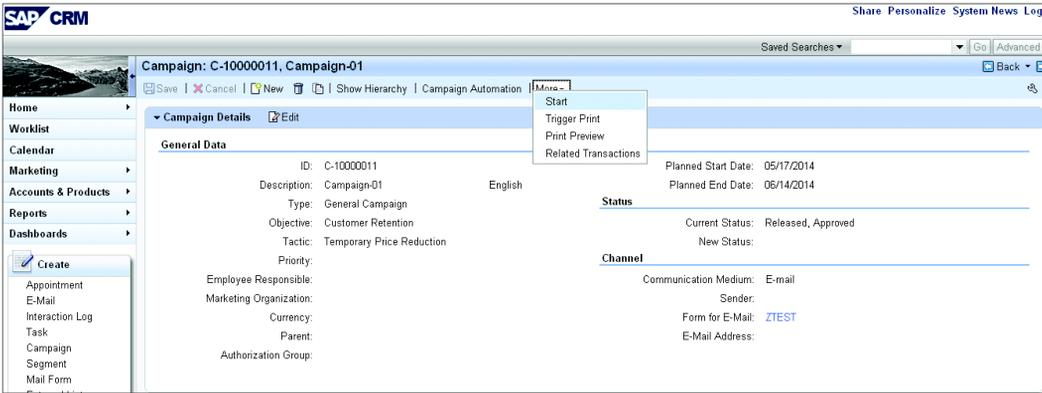
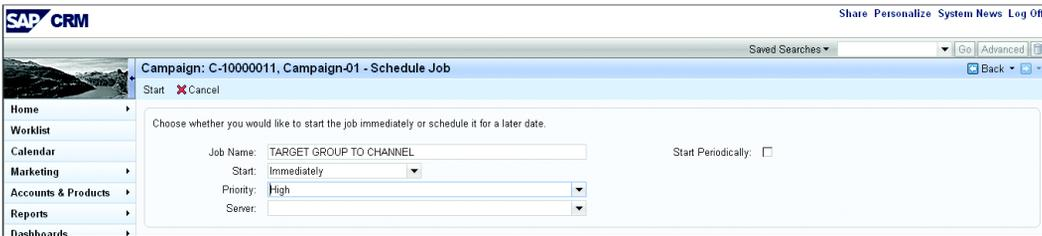

Figure 5.21 Scheduling a Job (1)
Figure 5.22 Scheduling a Job (2)
6. Click on MORE • START to schedule a job (see Figure 5.21). This will execute the campaign to trigger the email to the customer (see Figure 5.22).